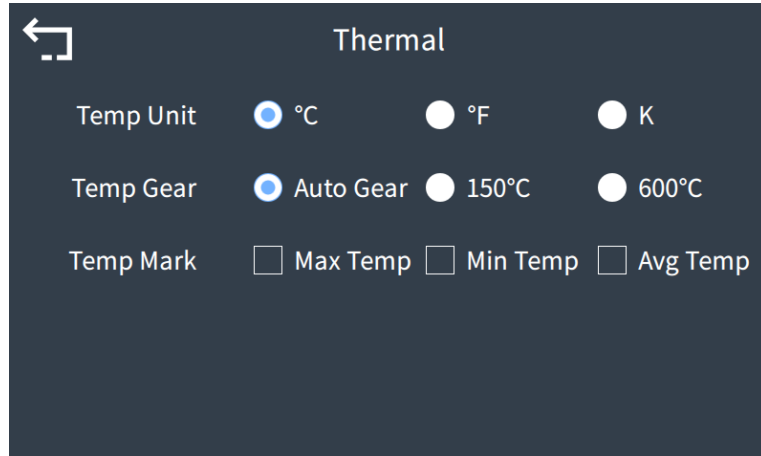

Figure 4.20 Setting of Temperature Measurement
Step 3: Touch or press the physical button to switch to "Temperature Setting" and press the physical "OK" button to enter the temperature setting interface (as shown in Figure 4.20);